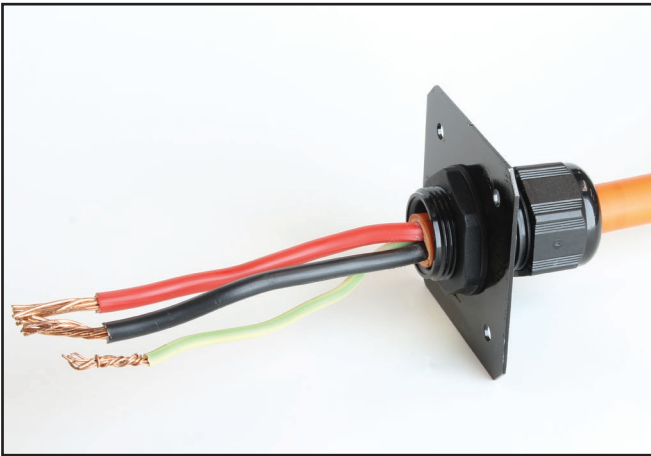

Figure S7 – Pre-assembling the Cable, Gland, Gland Plate and Mounting Gasket
- Pre-assemble one end of the new direct-connection cable by feeding it through the cable gland and then insert the cable gland into the gland plate and loosely screw on its locking nut (see Figure S7).